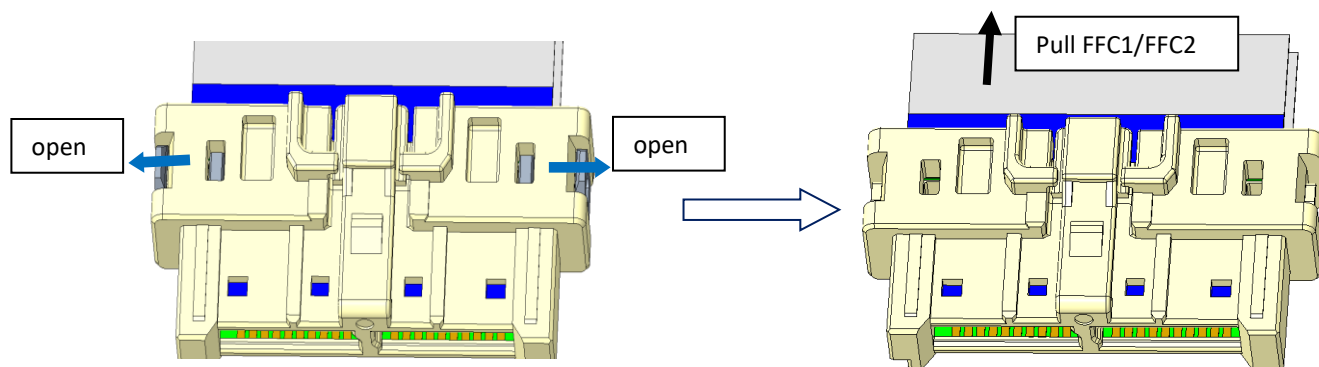

Figure 4
Step1, open the spacer housing by fingers. Step 2, remove the spacer housing, step 3, replace the FFC according to the method of 3.1.1 and 3.1.2. See Figure 4, spacer housing is removed from rec housing.